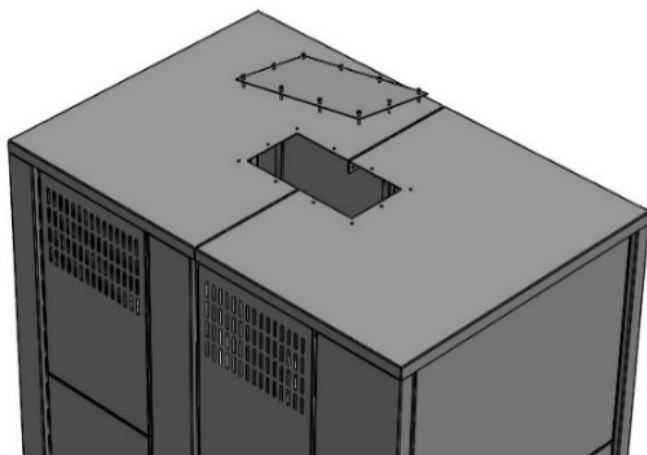

Figure 3: Removable Lifting Cover Plate
1. For enclosed transformers, remove the lifting cover plate on the roof of the enclosure. See Figure 3.